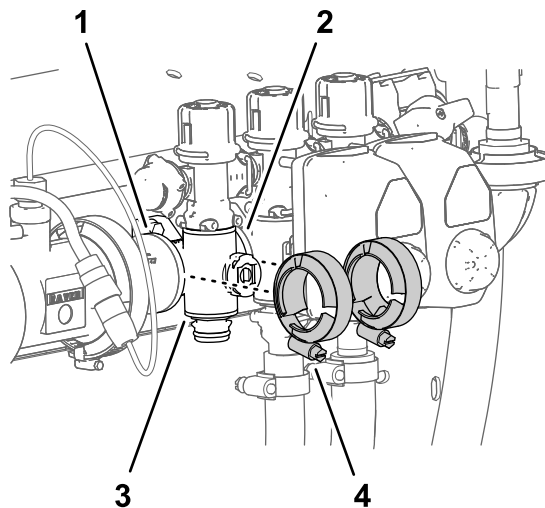

**Figure 128**
3. Assemble the quick-connect fitting of the section-valve manifold to the quick-disconnect socket of the section-bypass valve with a quick-connect pin (Figure 127 and Figure 128).
8. Assemble the quick-connect coupler of the section hose onto the quick-connect fitting of the section-valve manifold with the quick-connect pin (Figure 128).